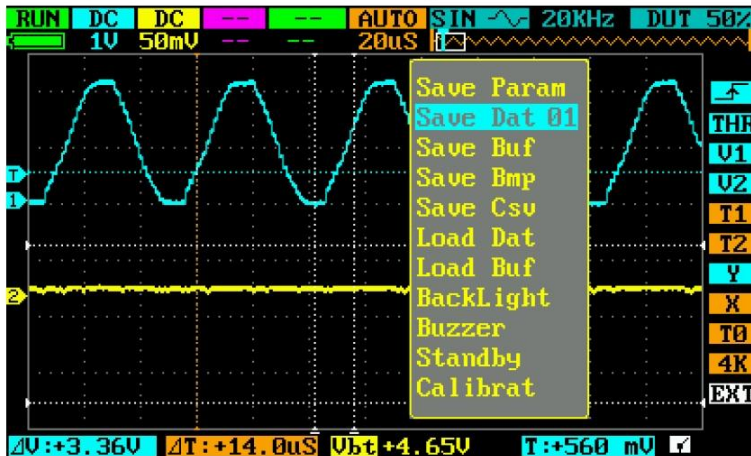

Figure 4.1
1. Input a standard signal to CH_A. Press **■**, and choose Save Dat 01 to save waveform, as shown in Figure 4.1: